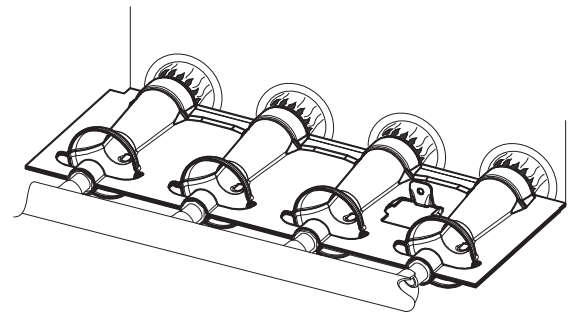

Fig. 29 - Burner Flame Adjustment
5. Start your furnace and observe its operation. Watch the burner flames to see if they are clear blue, almost transparent. See Fig. 29. If you observe a suspected malfunction, or the burner flames are not clear blue, call your dealer.